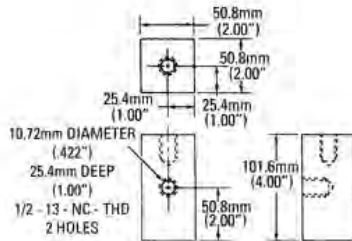

Fig. 2 -- Dimensions to Fabricate Blocks
- Blocks fabricated from steel according to Figure 2